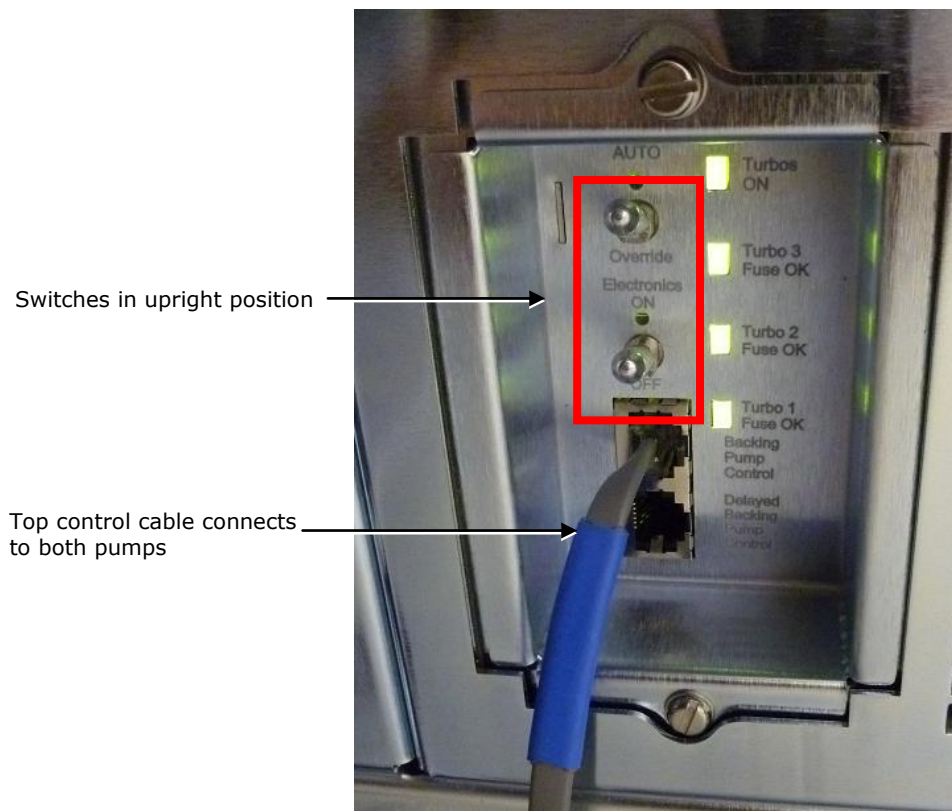

Figure 16 - Connecting the pump control cable (rotary pump configuration)
10. Ensure that the pumping override and maintenance toggle switches are in the upright position (Figure 16).